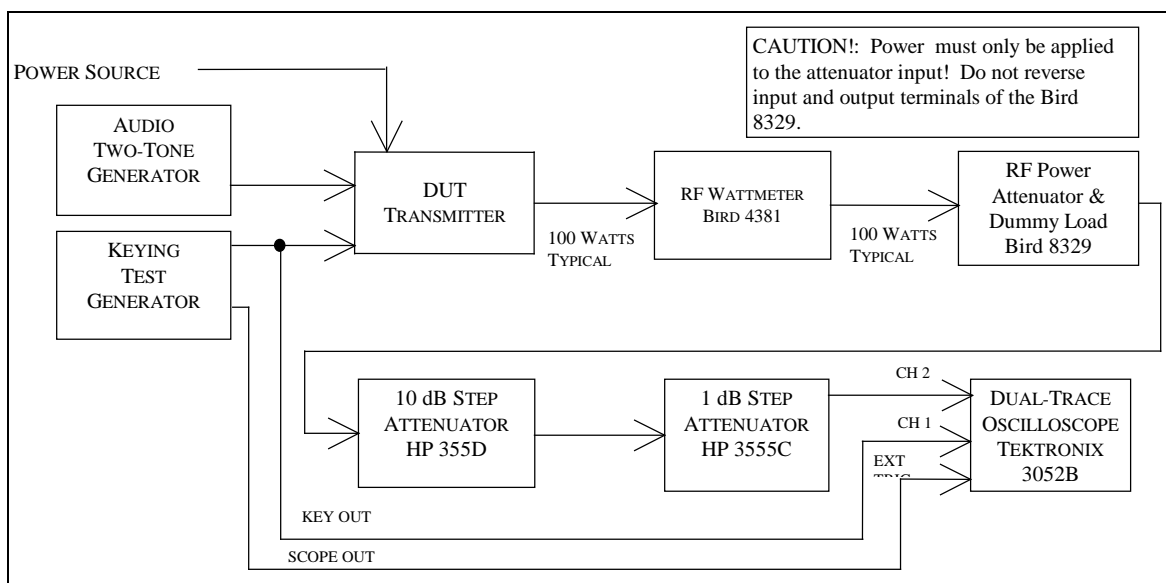

Fig. 4-8 — PTT SSB/FM RF Output Test Hook-up
4.8.2 Test hook-up (See Fig. 4-8)